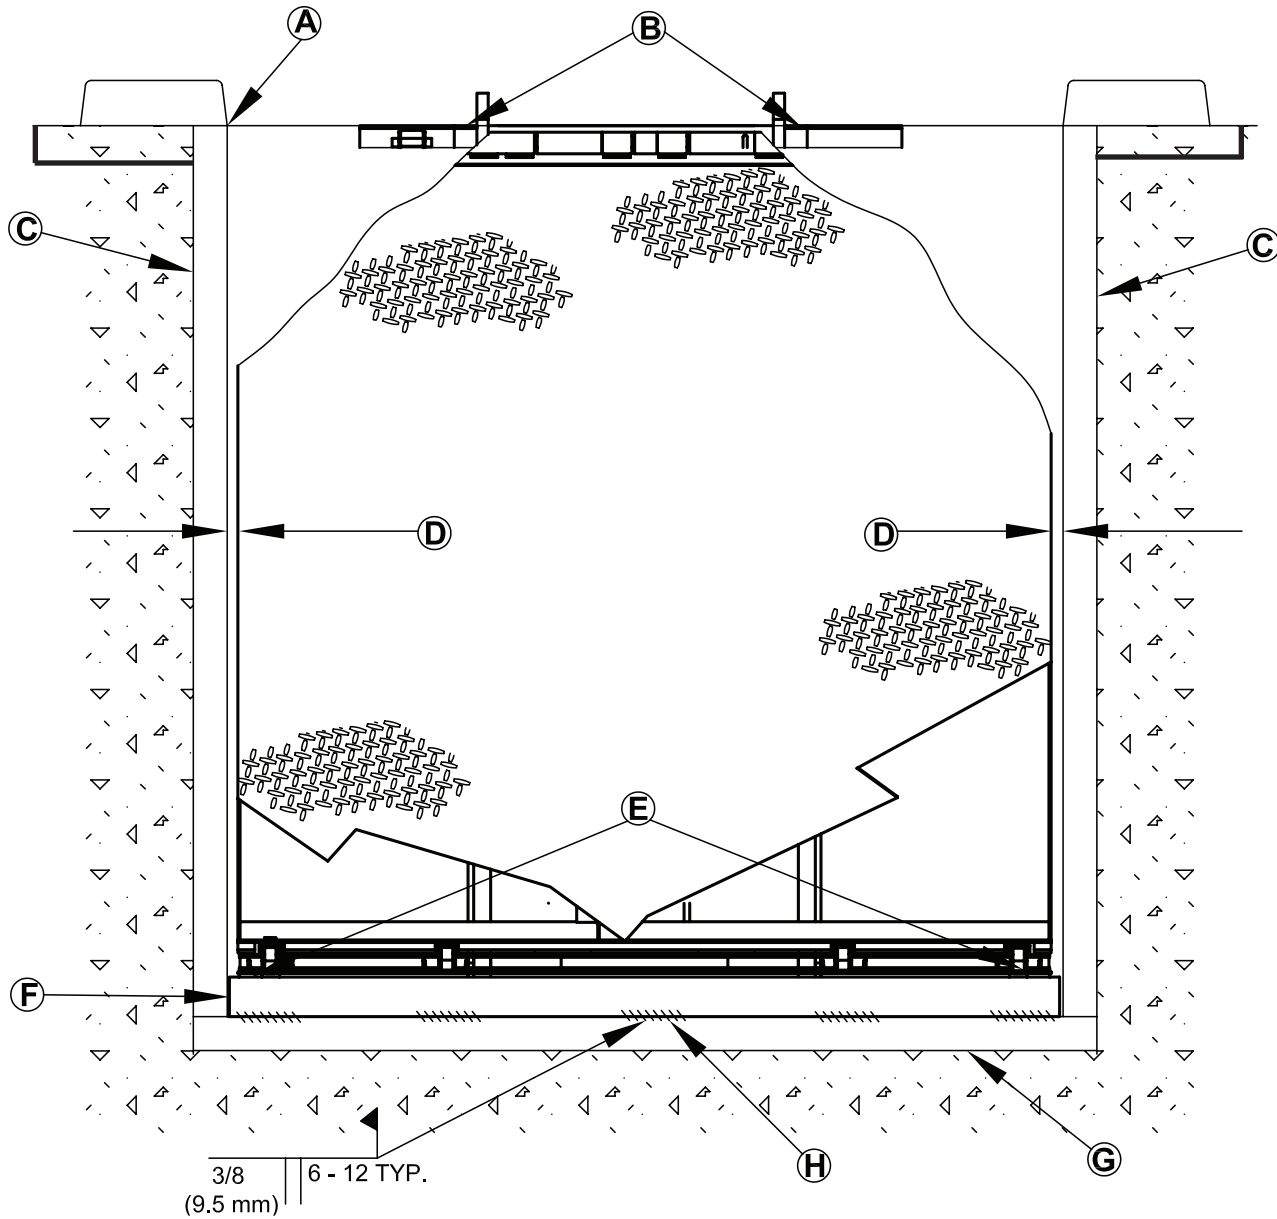
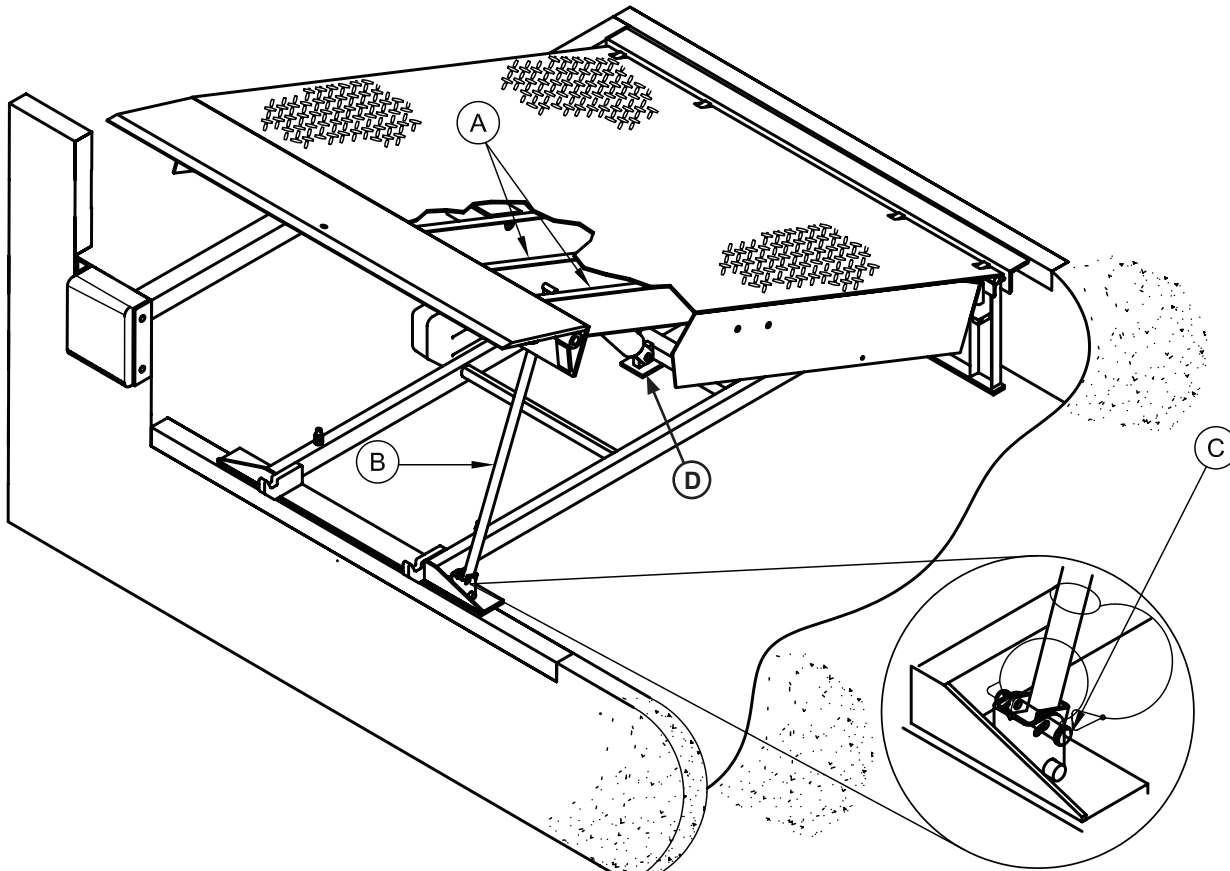

Figure 13
Figure 14
**Note:** Figure 13 shows a typical weld pattern. The weld pattern will vary slightly depending on size of dock leveler.
17. Shim and weld the maintenance prop (Figure 14):
- a. Install shims under maintenance prop (B) where prop attaches to leveler frame (C). Make sure prop is solidly shimmed.
- b. Raise maintenance prop (B) to the service (upright) position and lock prop in this position using an OSHA approved locking device.
18. Install shims at locations (C and D) using the pyramid or stepped shimming method (see Figure 13). Both platform cylinder trunnions must be solidly shimmed the entire length of the trunnion. Make sure the trunnions are level from side-to-side as well as from front-to-back.